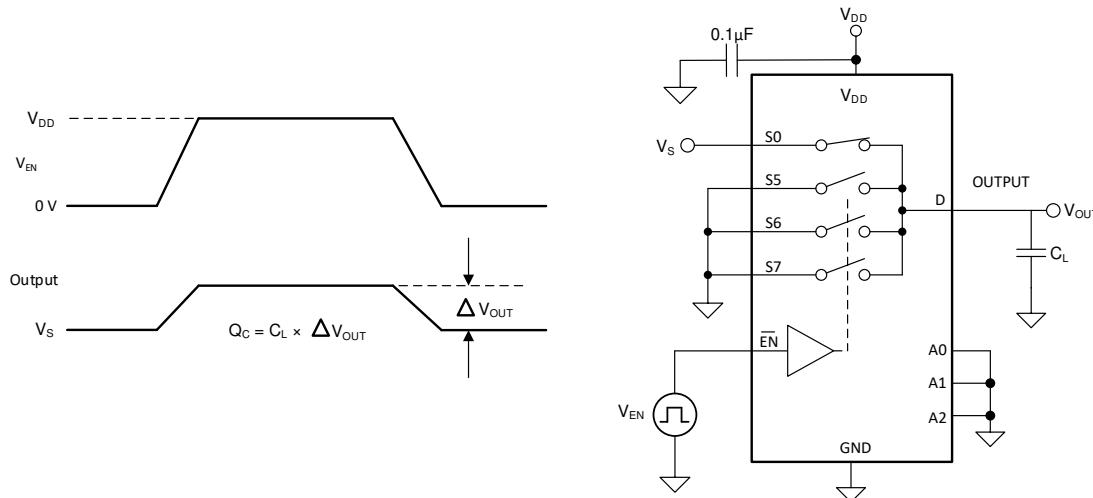

Figure 7-7. Charge-Injection Measurement Setup
The TMUX1308A and TMUX1309A device have a transmission-gate topology. Any mismatch in capacitance between the NMOS and PMOS transistors results in a charge injected into the drain or source during the falling or rising edge of the gate signal. The amount of charge injected into the source or drain of the device is known as charge injection, and is denoted by the symbol Q_C . Figure 7-7 shows the setup used to measure charge injection from source (Sx) to drain (D).